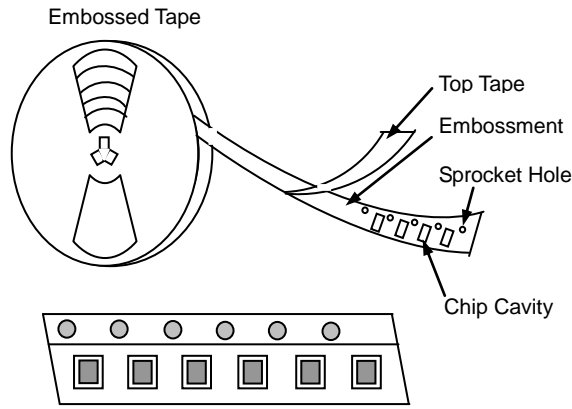

Fig. 6.1-1
i. Tape carrier packaging are specified in attached figure **Fig. 6.1-1~3**